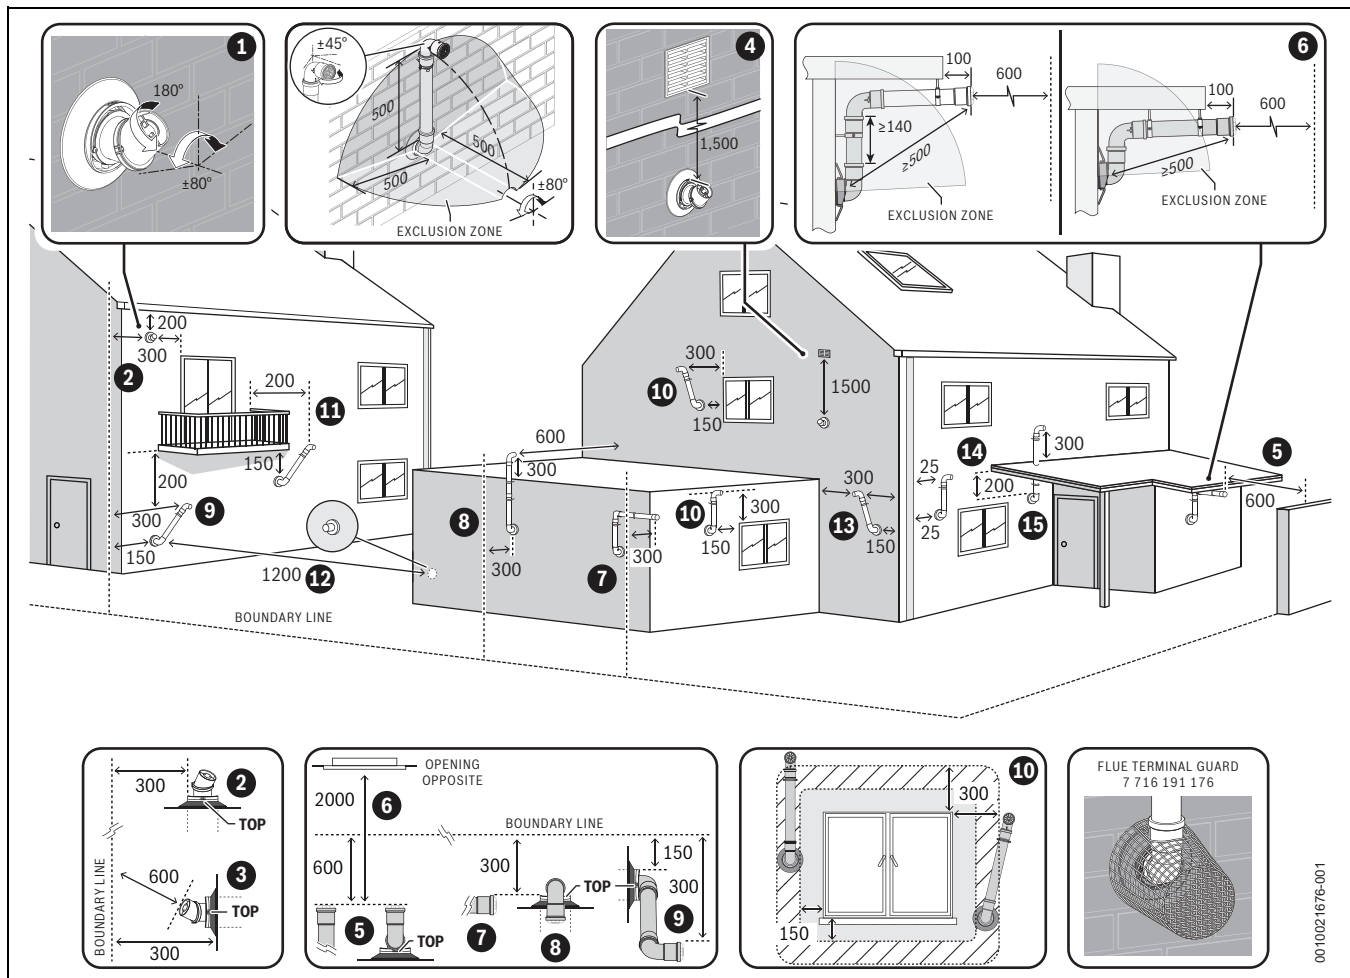

Fig. 34 Plume re-direct and plume management terminal positions
- ▶ Refer to “Horizontal flue terminal positions” for all concentric flue terminal positions unless the flue position is specified in figure 34 “Plume re-direct and plume management terminal positions”.
Key to figure 34